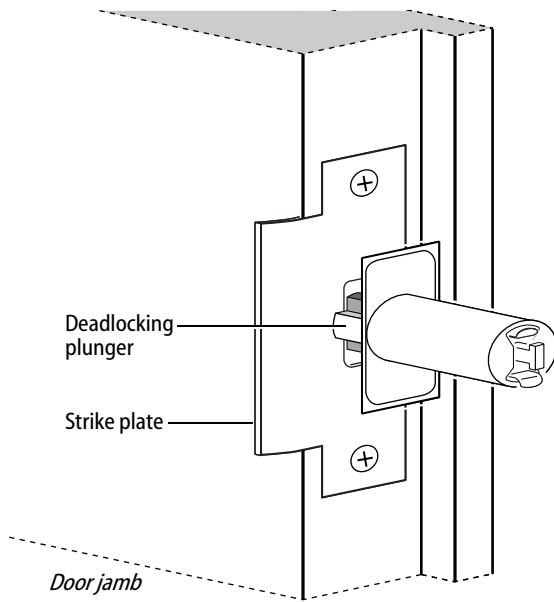

Figure 6b Aligning the deadlocking plunger with the strike plate
**Caution:** The deadlocking plunger of the latchbolt must make contact with the strike plate, as shown in Figure 6b. The plunger deadlocks the latchbolt and helps prevent someone from forcing the latch open when the door is closed.